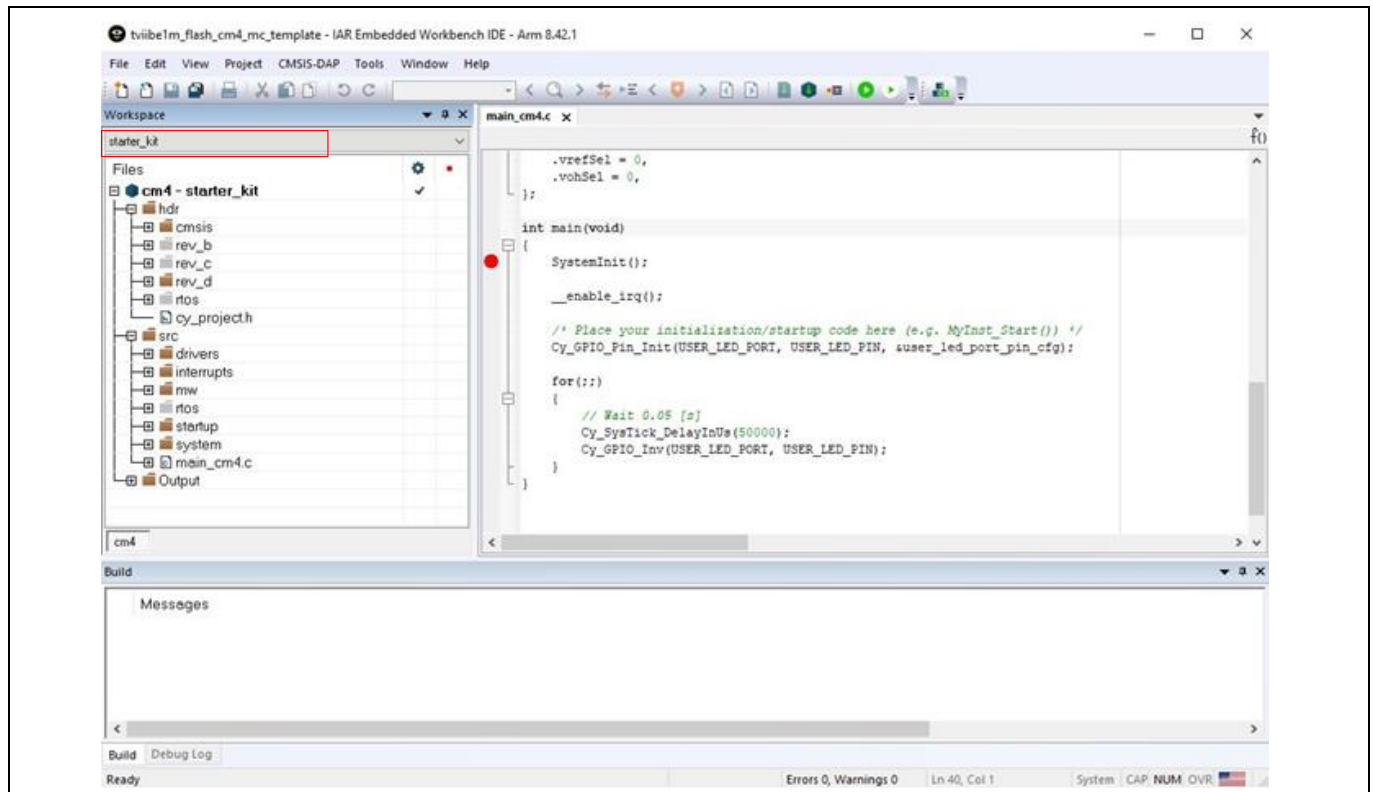

Figure 14 Selecting workspace revision
2. Select the workspace revision **starter_kit** from drop-down list under **Workspace**, as shown in **Figure 14**.